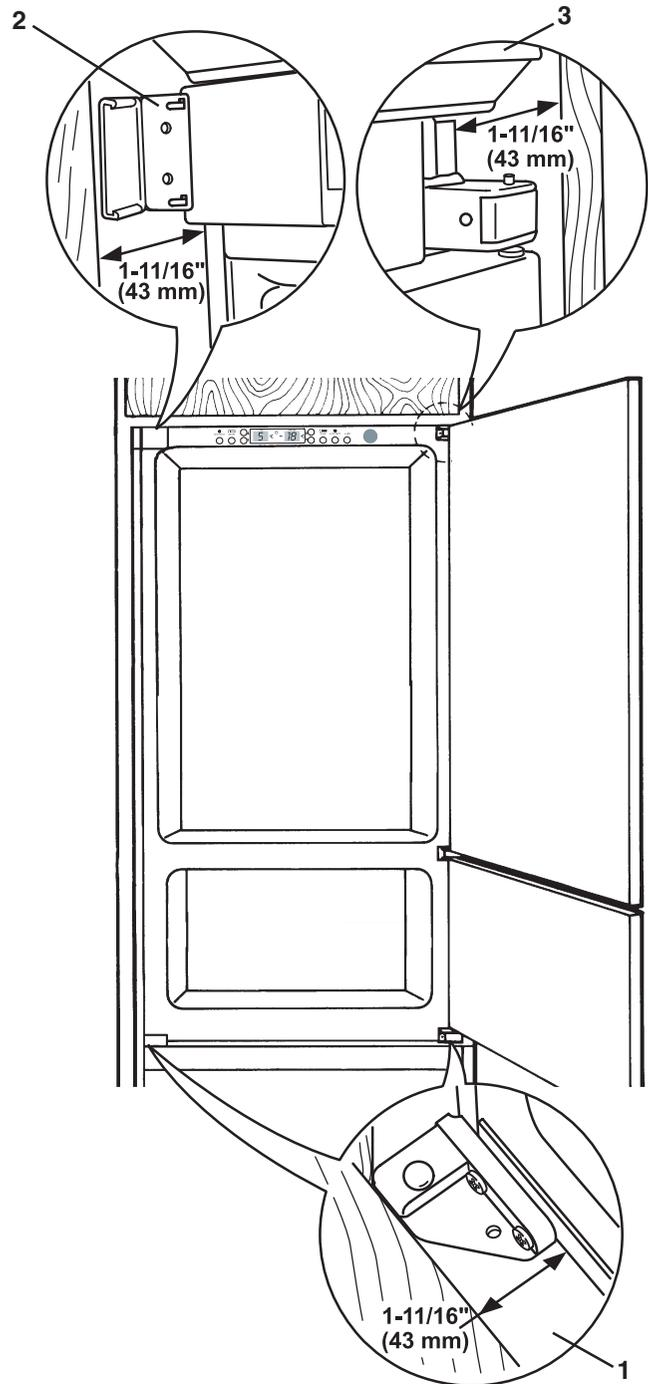

Figure 18
5. Slide the appliance into the kitchen cabinet **(Figure 18)**:
- Make sure the front of the bottom bracket and front of the bottom hinge **(Fig. 18, 1)** are flush with the front edge of the kitchen cabinet.
- Align the front edge of the open top bracket **(Fig. 18, 2)** so it is flush with the front edge of the kitchen cabinet. With the top bracket open, the distance between the front edge of the kitchen cabinet and the appliance housing must be 1-11/16 in. (43 mm).
- Verify the distance between the front edge of the kitchen cabinet and the appliance on the hinge side **(Fig. 18, 3)** is 1-11/16 in. (43 mm).